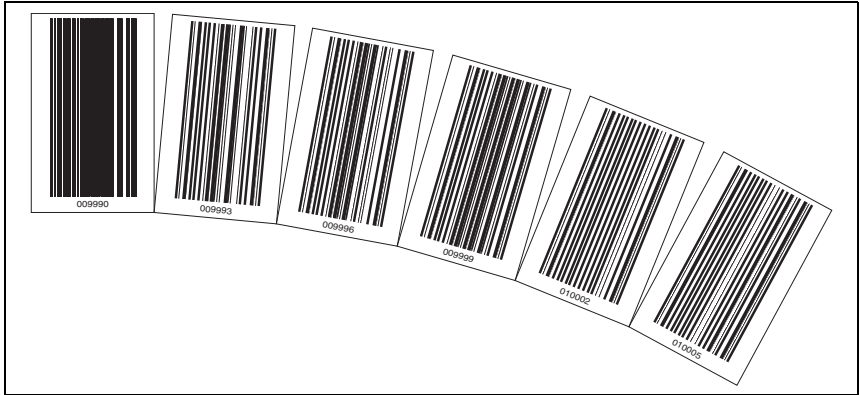

Figure 6.4: Partial cutting of the bar code tape in curves
*When working with BCB in curves, the BCB should only be partially cut at the cut mark and affixed along the curve like a fan; it must also be ensured that the BCB is affixed without tension (see Figure 6.4).*